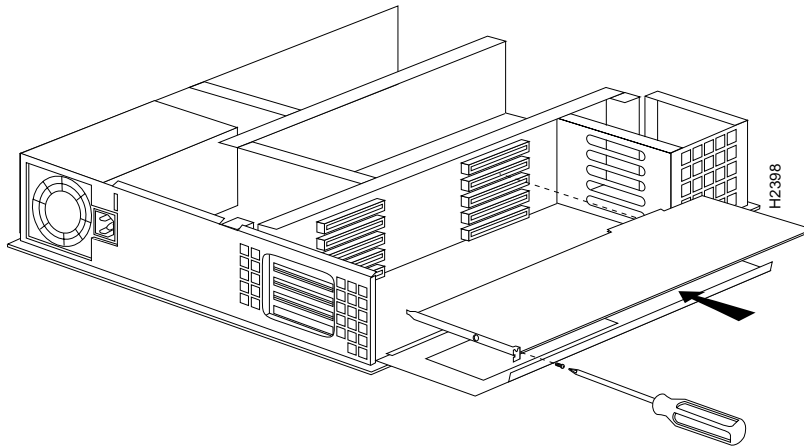

Figure 4-5 Inserting the EISA Adapter into the EISA Slot
**Step 5** Without touching any electrical components, slide the adapter into the slot. Press firmly into place. (See Figure 4-5.)